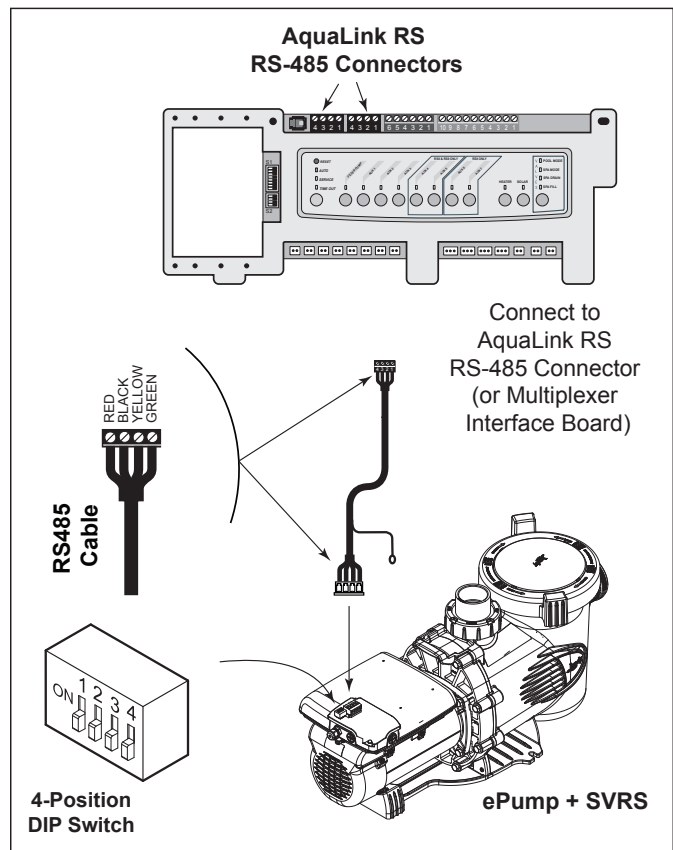

Figure 5. Wiring AquaLink RS Controller, AquaLink PDA or AquaLink Z4 to ePump
3. Unplug the RS-485 connector from the ePump + SVRS and attach the four (4) wires in the RS-485 cable to the RS-485 connector. Match the wire colors with the connector positions as follows: 1-red, 2-black, 3-yellow, and 4-green. See Figure 5.
5. Slide dip switches 1 and 2 down, so they are in the OFF position. See Figure 5.